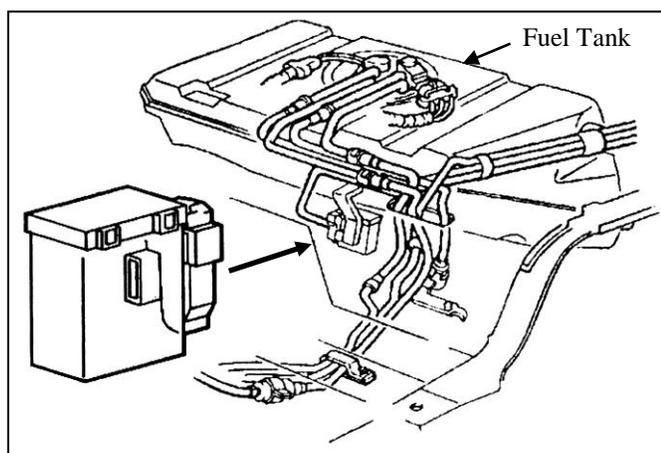

FIGURE 6.6 Canister Vent Solenoid
- 4. CAN VENT (not equipped on all models)** - The Evaporative Emissions (**EVAP**) control system used on all vehicles is the charcoal canister storage method. This method transfers fuel vapor from the fuel tank to an activated carbon, charcoal, storage device, canister, to hold the vapors when the vehicle is not operating. When the engine is operating, the fuel vapor is purged from the carbon element by intake air flow and consumed in the normal combustion process. **See Figure 6.6**